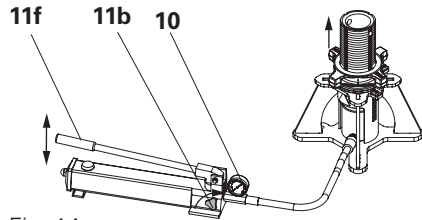

Fig. 14
- The cylinder (8) must be in a perpendicular position, flush-fitted and centred!
- The hydraulic hose must not be kinked or bent sharply. (Fig. 14)
- The pump valve (11b) is closed. (Fig. 14)